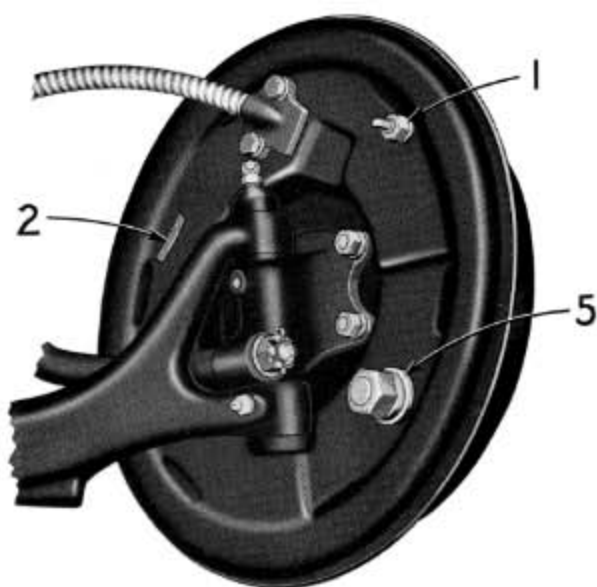
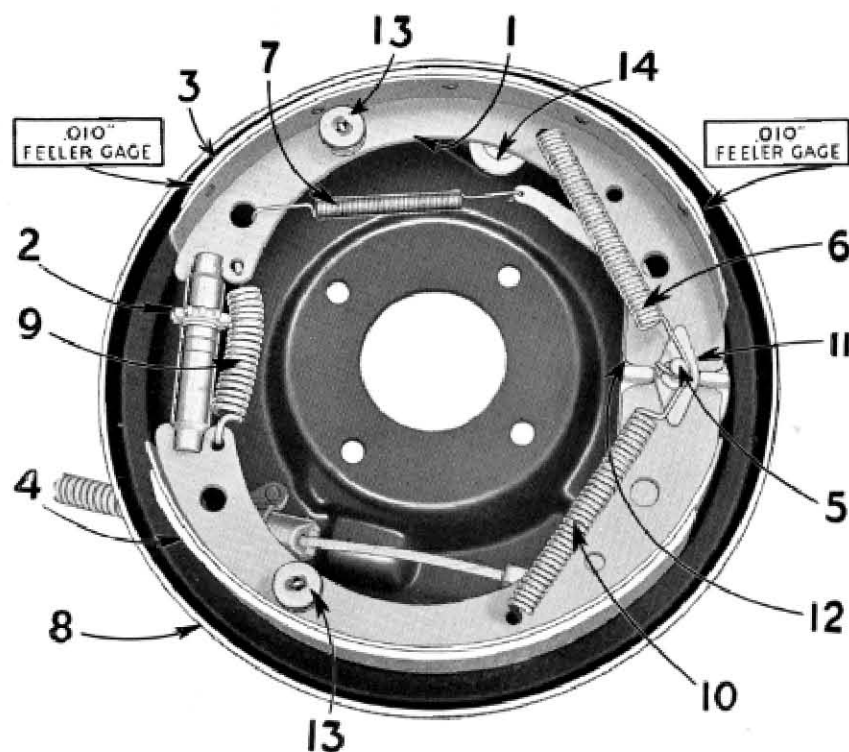

Figure 2—Left Front Brake
Figure 4—Left Rear Brake
*The Eccentric Adjustment*—1-Fig. 2. This adjustment centralizes the brake shoe in the brake drum.
6. Remove adjustment hole covers from brake backing plates (2-Fig. 2) and inspection hole covers from brake drums.
7. *At All Wheels:* Loosen eccentric lock nut (1-Fig. 2) on eccentric adjustment and insert .010" feeler gauge between the lining of top shoe and brake drum (Fig. 4). Turn the eccentric adjustment in the direction of forward wheel revolution until .010" feeler is just snug at anchor and adjusting ends of top shoe. Tighten eccentric lock nut. The clearance at both ends of top shoe should not vary more than .003". Should the variation between the two ends be greater than .003", it will be necessary to relocate anchor pin as outlined in Paragraph 17. (In case of clearance variation, it is desirable that clearance at anchor end of shoe be less than at adjusting end.) (See Note on Page 5.) *Do not adjust anchor pin unless this inspection shows it necessary.*